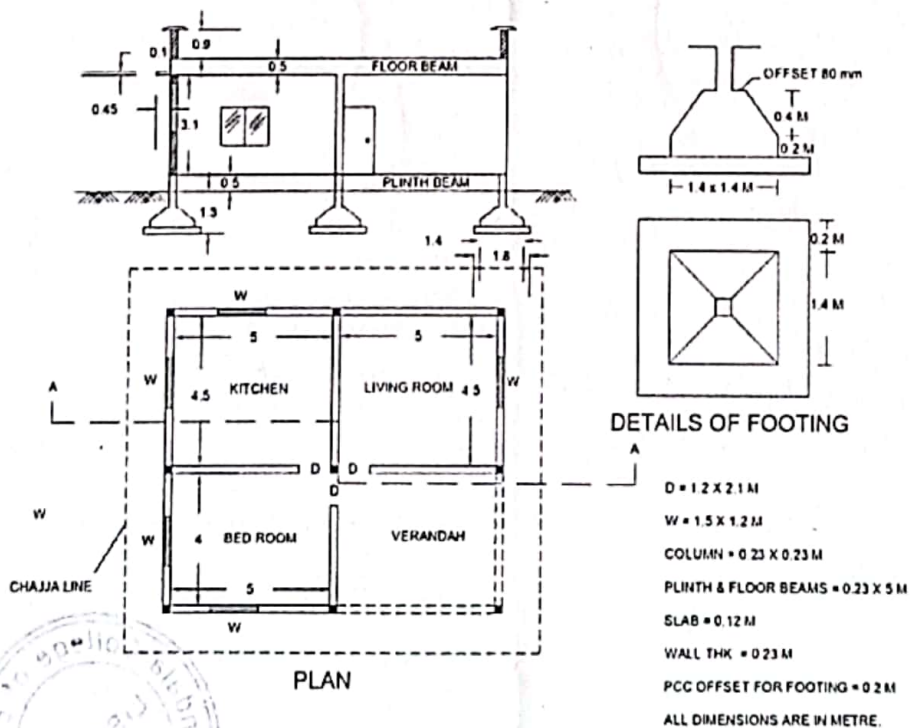

Fig.01
Q.1 Workout following quantities from given plan and section. (Fig.01). 20